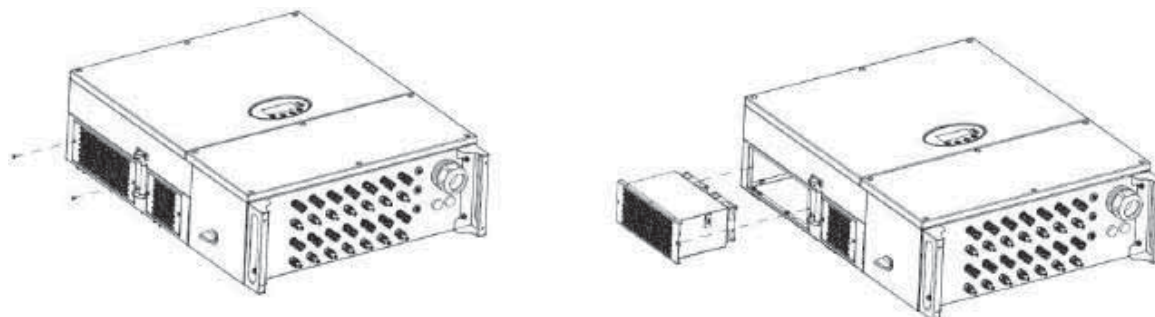

Fig 5.3 Replace the fan
- (8) Disassemble the damaged inverter fan as shown in fig 5.3, then install the fan back to its original position, and connect the fan power and control cable.